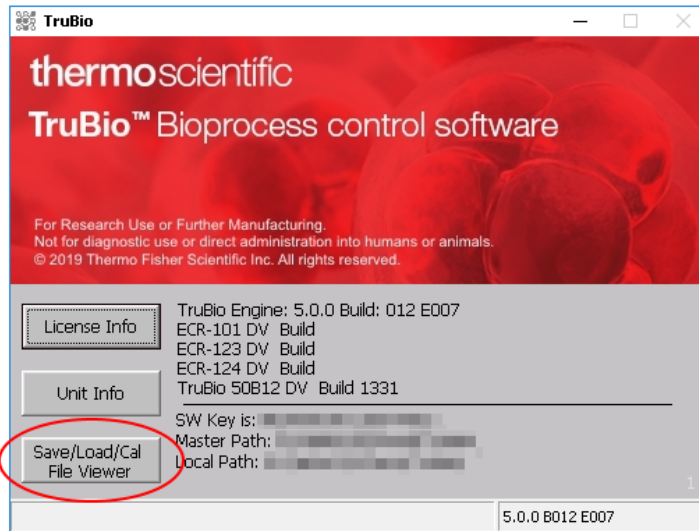

Figure C.11. “Save/Load/Cal File Viewer” button.
2. When the TruBio screen appears, click **Save/Load/Cal File Viewer** on the lower left (Figure C.11).